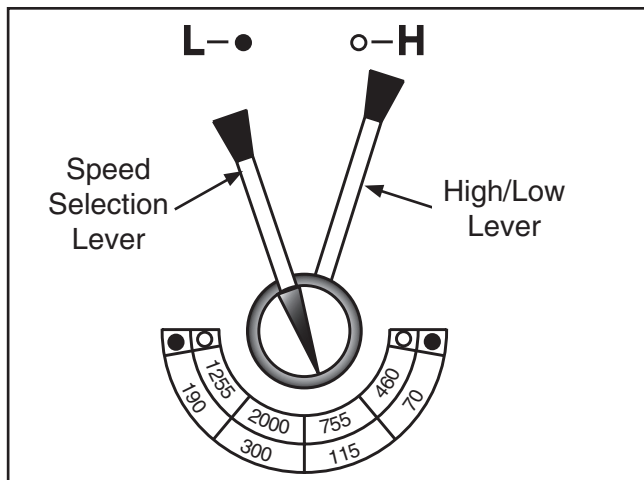

Figure 45. Spindle speed selectors.
- Move the High/Low lever shown in **Figure 45** to the appropriate setting for the RPM that you are selecting.